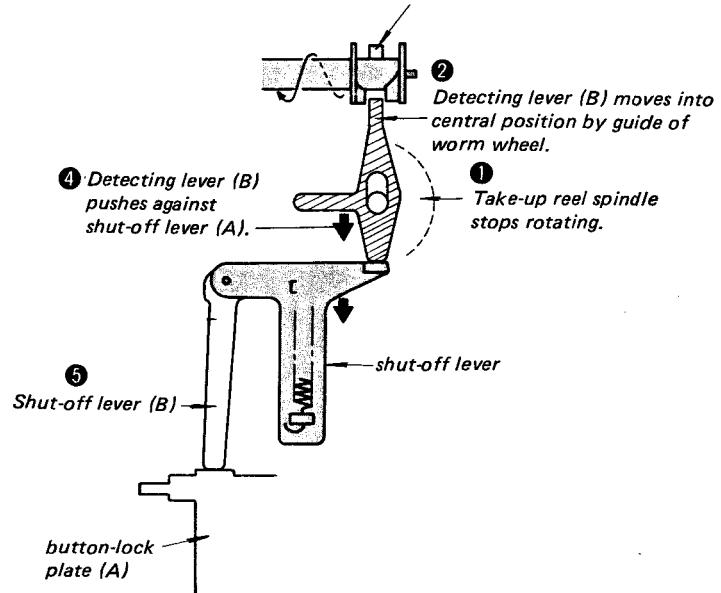

Fig. 1-2.
When the take-up reel stops rotating, the worm wheel activates the automatic shut-off mechanism. This operation is made by shut-off lever (B) pushing against button-lock plate (A) as shown in Fig. 1-2.
③ This projection pushes against detecting lever (B).